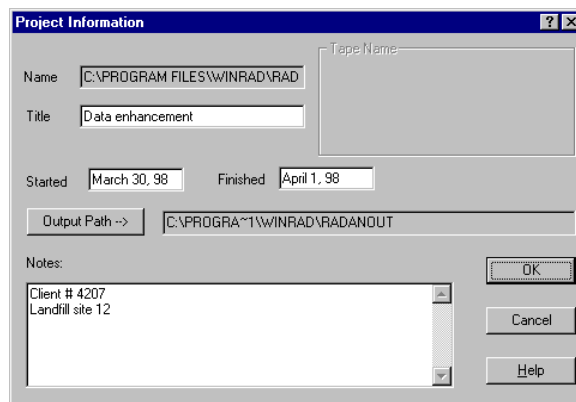

Figure 121: Project Information dialog box.
- 3** The Project Information box (Figure 121) will appear. Type in a title for the project and all the pertinent information associated with that project. You may wish to include client name, job number, location, type of antenna used, and other parameters that are important.